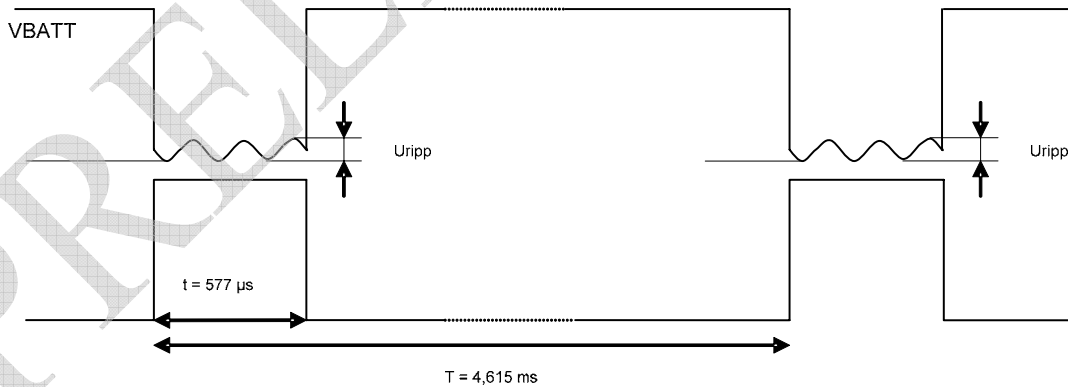

Figure 5. Power Supply During Burst Emission
- A GSM/GPRS class 2 terminal emits 577 $\mu\text{s}$  radio bursts every 4.615ms. (See Figure 5 Power Supply During Burst Emission.)